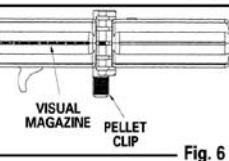

Fig. 4
- Locate the BB loading port on the left side of the receiver. (Fig 4.)
- Pour no more than 200 BBs into the hole (Fig. 4). Do not put pellets in the reservoir hole because they will jam the reservoir.